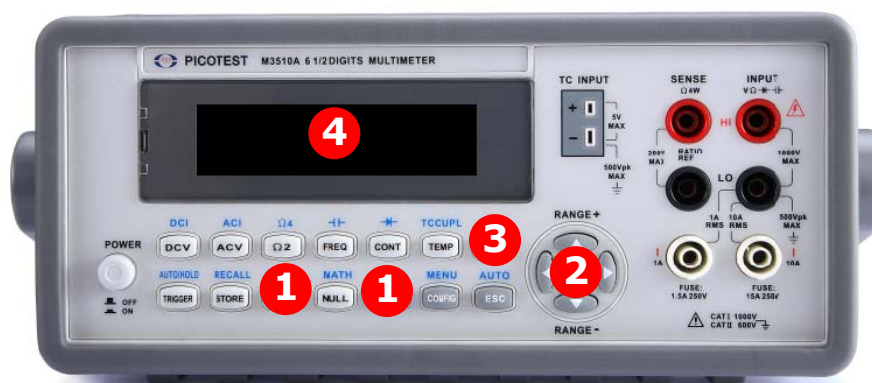

Figure 4-3
1. Press SHIFT+DIGITS buttons to switch to the digital filter function as shown in Figure 4-3.